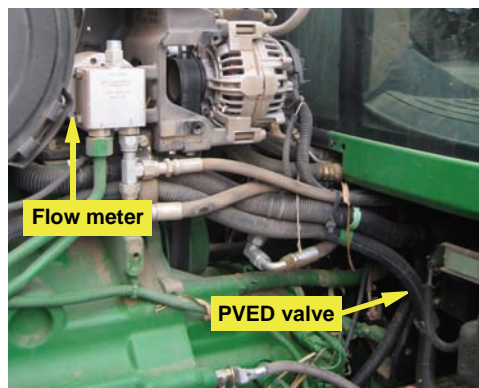

Figure 2d: Flow meter and PVED locations
- e. Locate the flow meter and PVED valve in front of the cab (Figure 2d). Remove the plastic shield to gain access.